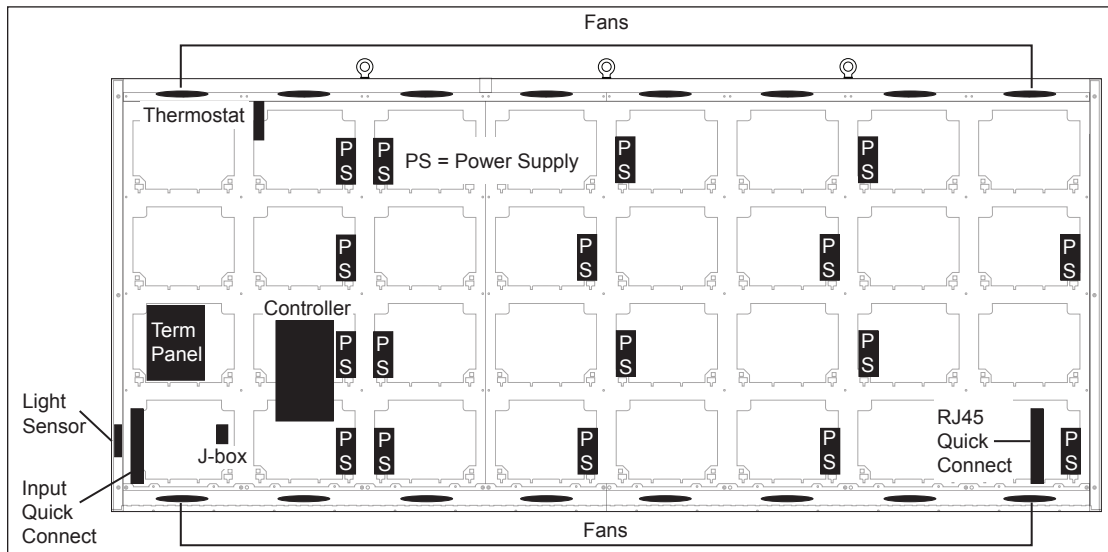
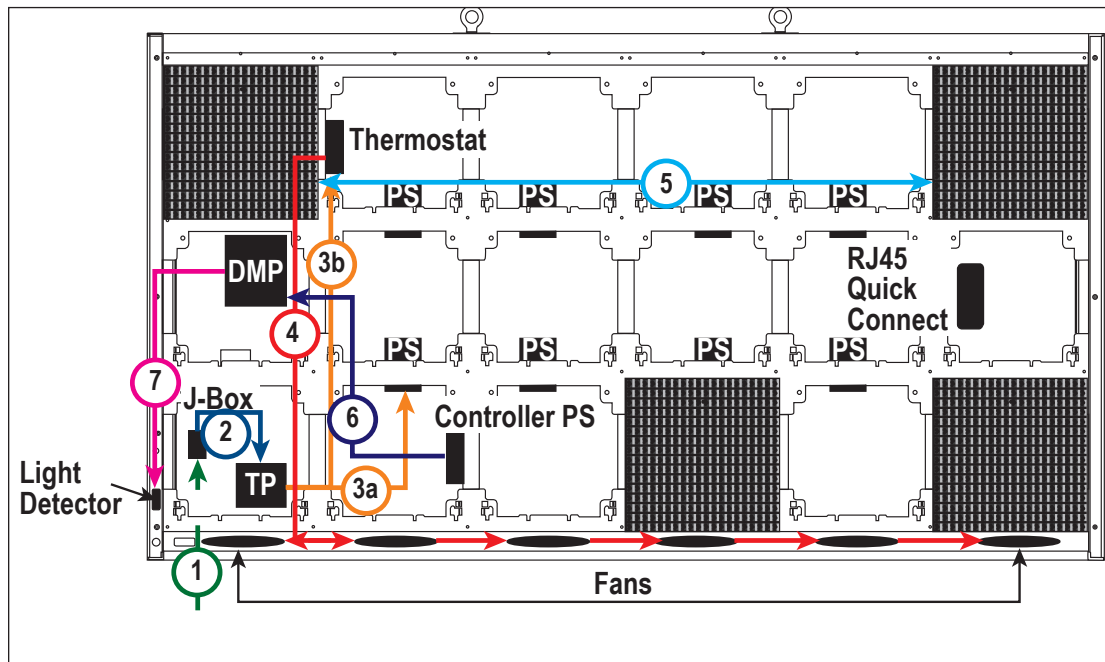

Figure 12: Component Locations In 4x8 Display
Figure 17: Power Routing
This section explains the steps necessary to maintain the Galaxy® Small Matrix GS6 display. Galaxy® Small Matrix GS6 displays are front accessible only. Remove modules on the front of the display to gain access to internal components. **Figure 12** and **Figure 17** show internal component locations.
- General component locations, shown in **Figure 12**, may vary depending on display size.
2. Remove the bottom two modules from the second column on the left side of the display with a $\frac{1}{8}$ " hex head wrench. A component layout is shown in **Figure 12**.
Figure 17 shows an example of how power is routed through the display.
The controller is located in the lower-left area of the display, as shown in **Figure 12**. From the bottom-left corner of the Primary face, go up to the second row of modules and over to the right two modules to locate the controller. The controller is in an enclosure which is not to be opened. Replace the entire enclosure.